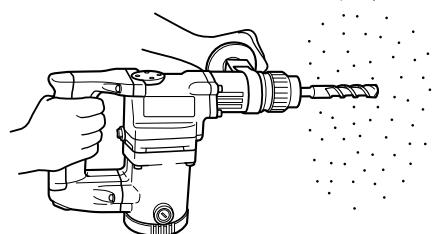

Fig. 6
- Pull the trigger switch after applying the drill bit tip to the drilling position (Fig. 6)
- When the drill bit touches an iron reinforcing rod, the bit will stop immediately and the rotary hammer will react to revolve. Therefore please grip the side handle and handle tightly as shown in Fig. 6.